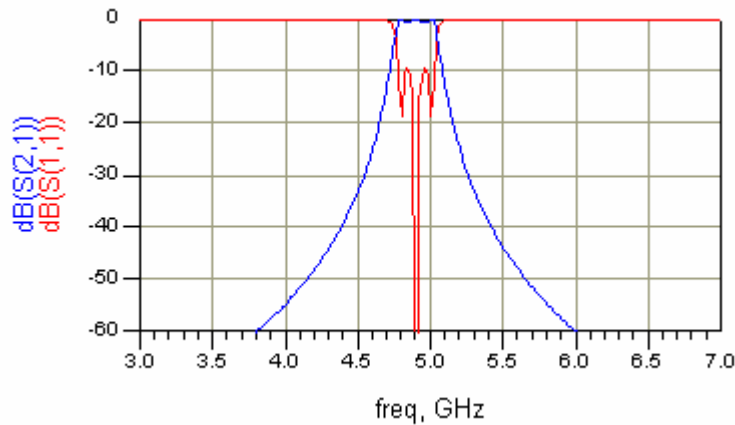

Figure 2. Example results for an ideal band-pass filter, with a center frequency of 4.9 GHz.
- e) Once you have verified that your design meets the center frequency and out-of-band attenuation specifications (e.g., see Figure 2), proceed to the microstrip implementation in the next section.